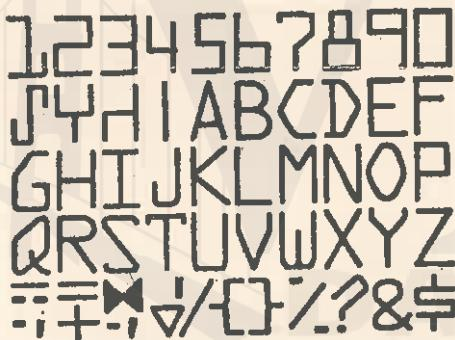

Fig. 36.16. OCR 'A' font (U.S.A.).
(10) Optical Mark Reading (OMR)
(11) Optical Character Recognition (OCR)
- Generally the characters to be read must be machine (typewriter/printer) printed and of a special character design or font (Fig. 36.16).
- This is true that letters, digits and symbols are printed in variety of forms, shapes and sizes. But even then, there are certain characteristics which are peculiar and common to each character. The OCR recognizes each character as if it were made of a collection of minute spots, (Fig. 36.16). After scanning a character, the pattern is matched against a set of patterns stored in the computer, whichever pattern is identified or nearly identified is said to be read. Patterns which are not identifiable by the OCR are rejected.
(12) Magnetic Ink Character Recognition (MICR)